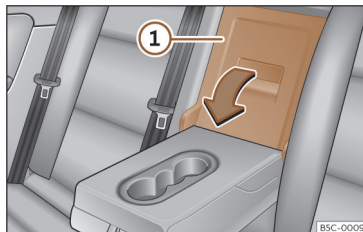

Fig. 190 On the rear seat backrest: opening the tailboard.
- Pull the release lever in the direction of the arrow and push the tailboard cover >>> **Fig. 190** ① down and forwards.